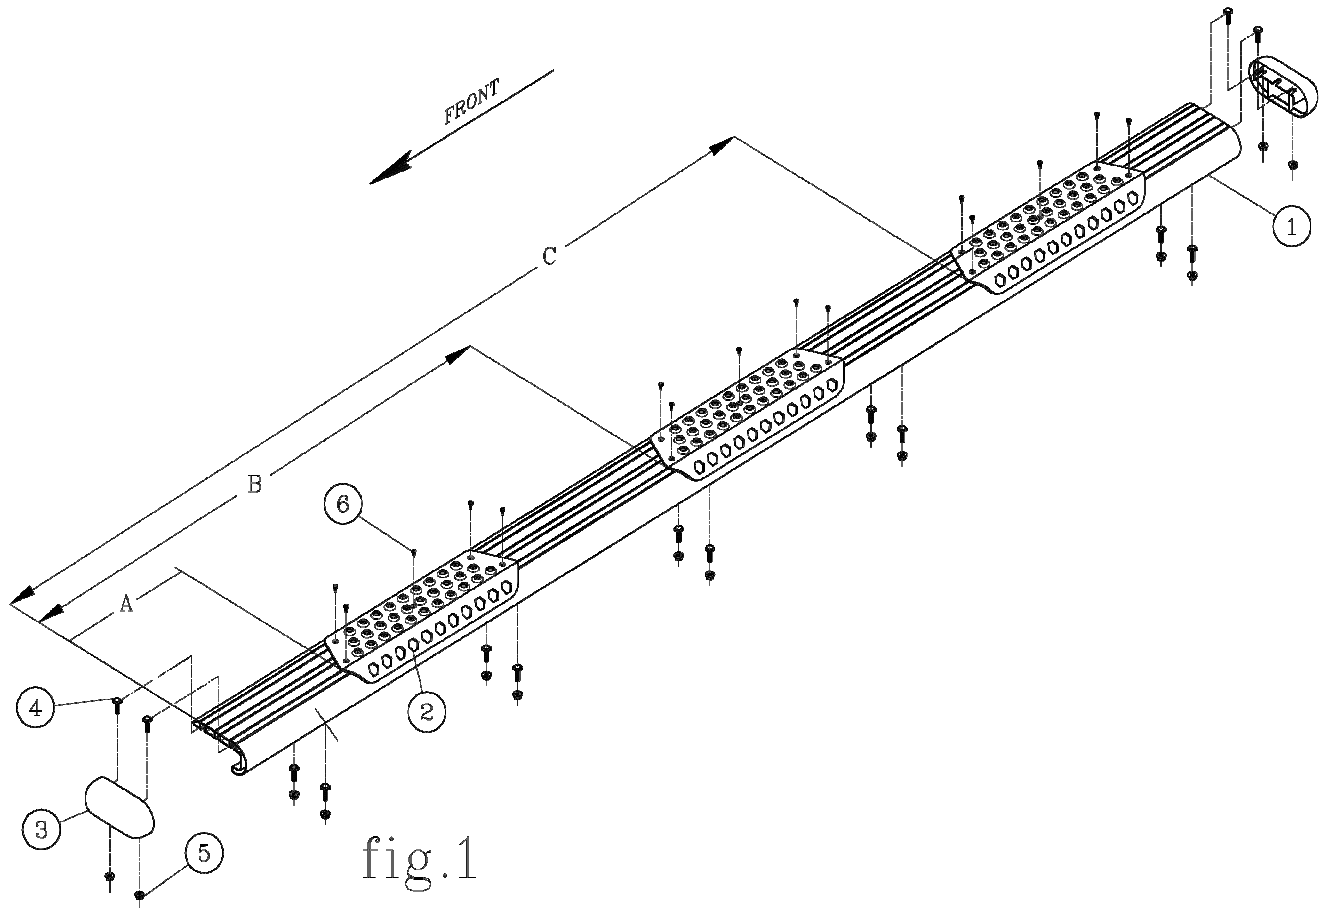

fig.1
3. BEFORE ATTACHING THE O-MEGA STEPS TO THE BRACKETS, PLACE THE STEP PADS (ITEM #2) ON TOP OF THE STEP PLATES. USE THE TABLE ON SHEET #2, AS A GUIDE TO POSITION THE STEP PAD FOR YOUR PARTICULAR VEHICLE. WHEN INSTALLING THE PADS ON THE STEPS, DRILL (5) 1/8" HOLE USING THE STEP PAD AS A GUIDE. ATTACH WITH (5) 8-18X1/2" TEK SCREWS (ITEM #6) PROVIDED. REPEAT FOR ALL STEP PADS. (NOTE: DUE TO THE SHORTNESS OF SOME BOXES, MOUNT THE BOX STEP PAD FIRST, APPROXIMATELY 1/2" FROM THE END CAP AND THEN MOUNT THE MIDDLE STEP PAD ACCORDINGLY.)
5. INSTALL THE END CAPS (ITEM #3) AS SHOWN IN *fig. 1*, TIGHTENING THE NUTS TO 5 LB FT.
2. ON THE LEFT SIDE OF THE VEHICLE INSTALL TWO 1.5" ISOLATOR WASHERS (ITEM #3) THE STEP MOUNTING BRACKET (ITEM #2) AND TWO M8-1.25 FLANGE NUTS (ITEM #4) ON THE FACTORY PROVIDED STUDS ON THE INSIDE OF THE ROCKER PANEL AS SHOWN IN FIGURE 1.